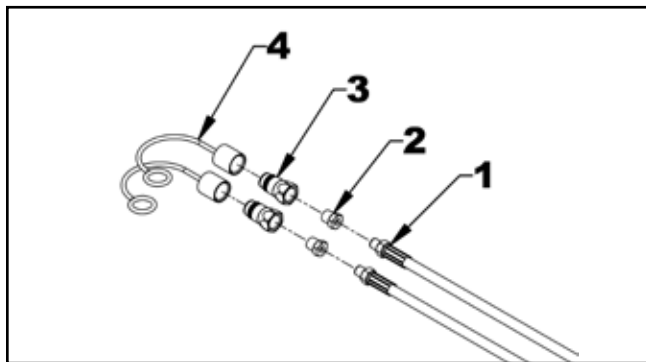

Figure 23. Quick Coupler Assembly
2. Make sure the Woodruff key is on the motor shaft and insert the motor gear (6) on the shaft. Secure with a 1/4"NC x 3/4" bolt, lockwasher, and flat washer (7, 8, 9).
3. Figure 23: Using thread sealant, install a 1/4"NPT female x 1/2" NPT male reducer (2), a male quick coupler (3) and a dust cap (4) on the straight end of each hose (1).